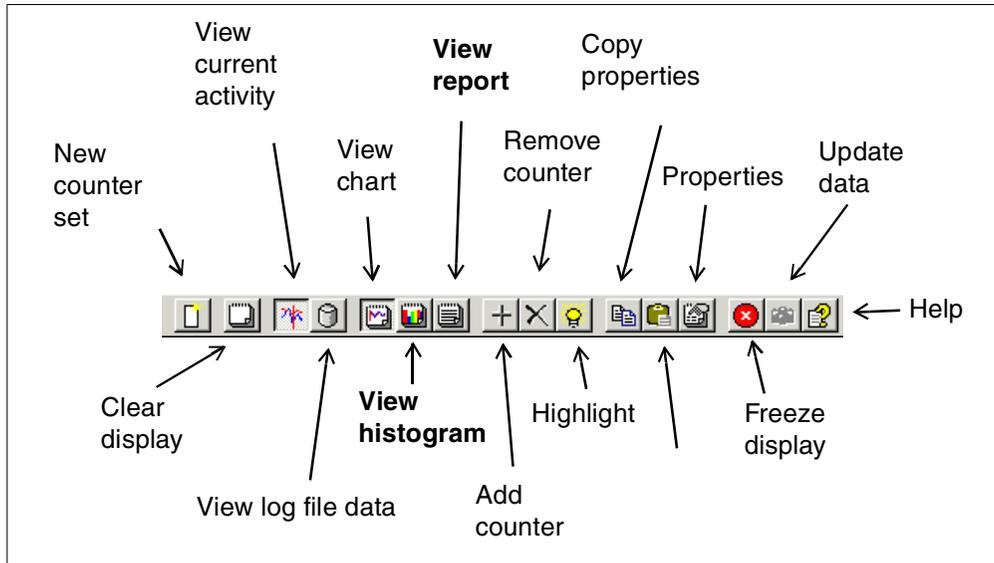

Figure 120. System Monitor toolbar
The System Monitor toolbar shown in Figure 120 illustrates the options that are available:
1. Click the **View Log Data File** icon (📁) on the System Monitor toolbar in Figure 120 on page 130.
3. Even though the log file is now open, you need to select the objects and counters to view by clicking the **Add counter** icon (+) on the toolbar in Figure 120 on page 130.
1. Click the **Properties** icon (🔧) on the toolbar in Figure 120 on page 130.